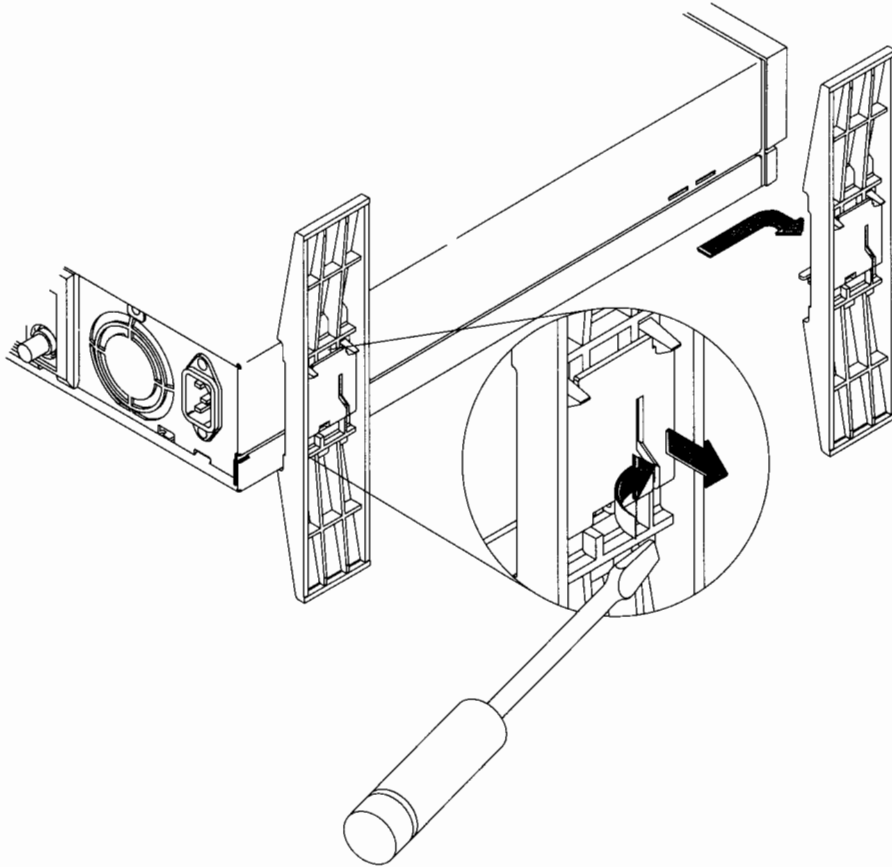

Figure B-1. Removing the Pedestal Feet
1. If your system has pedestal feet, remove the pedestal feet, as shown in Figure B-1.